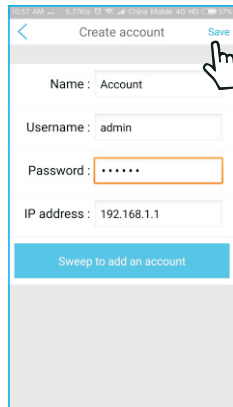

Fig.5-13
Step 3. Login from the app and create a new account, input the AP data as fig 5-13 and save the current account then login.